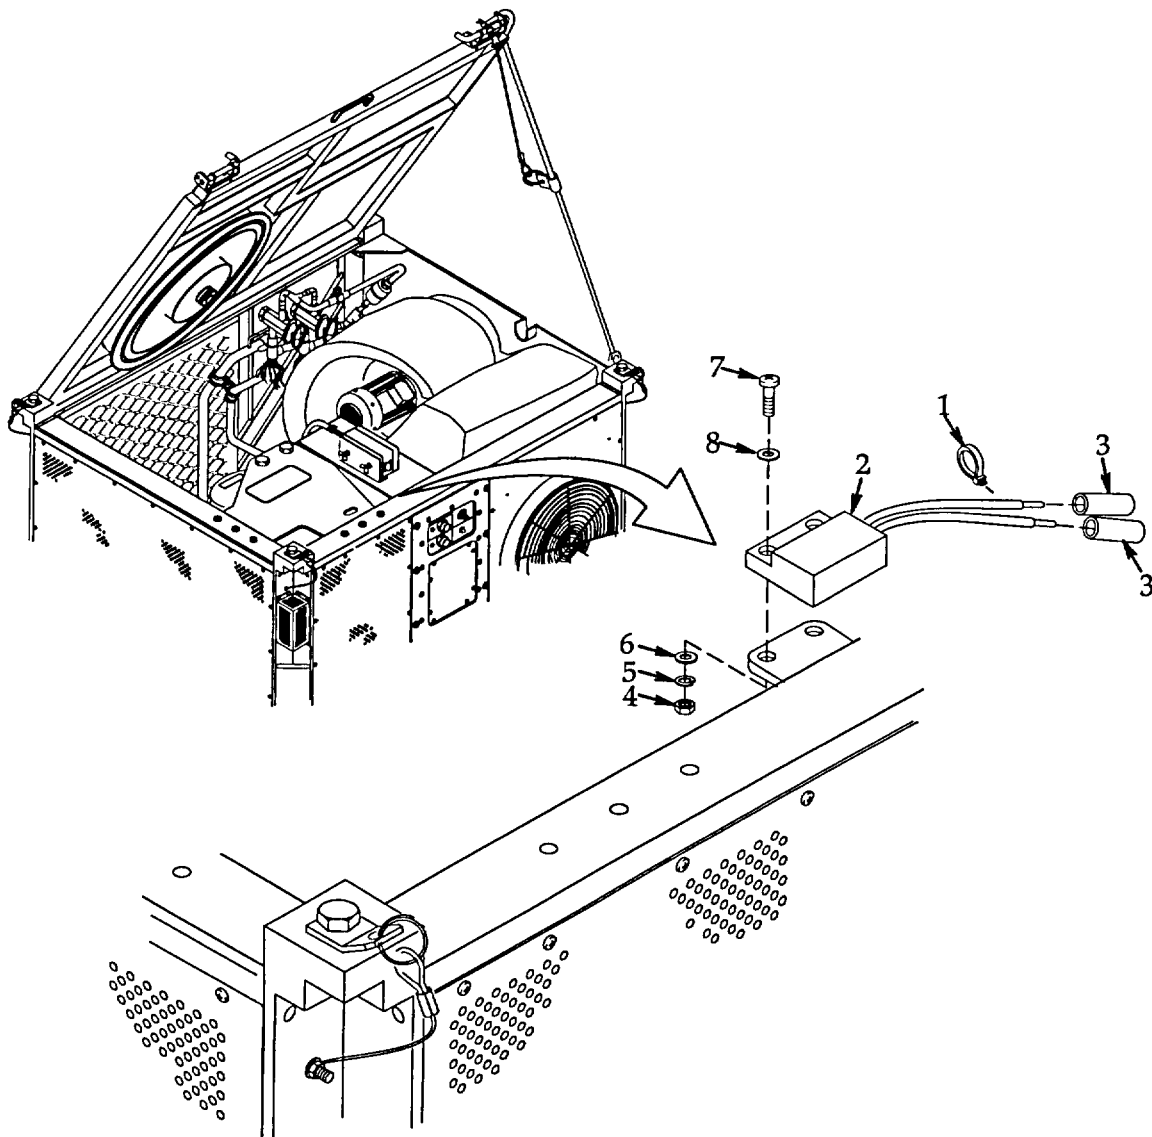

Figure 4-33. Magnetic Proximity Switch (S1).
- a. **Removal.** See figure 4-33.
- (2) Raise and secure cover per paragraph 4.2.
- (3) Cut and remove three tiedown straps (1) securing magnetic proximity switch (2) leads. Discard tiedown straps.
- (4) Tag the magnetic proximity switch (2) leads at connection points then cut off and discard two splices (3) to disconnect leads.
- (5) Remove two nuts (4), lock washers (5), flat washers (6), screws (7), flat washers (8), and magnetic proximity switch (2). Discard lock washers.
- b. **Installation.** See figure 4-33.
- (1) Install magnetic proximity switch (2) and align mounting holes. Secure with two flat washers (8), screws (7), flat washers (6), new lock washers (5), and nuts (4).